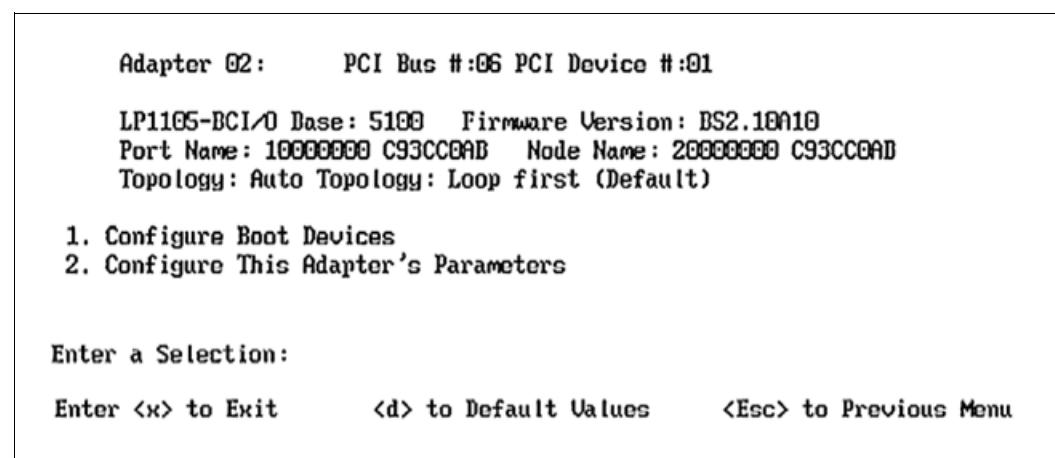

Figure 18-9 Adapter 02 panel
3. Select **2** to configure the adapter's parameters and press Enter as shown in Figure 18-9.